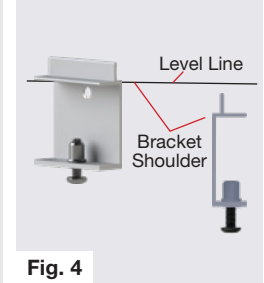

Fig. 4
- Using Hardware appropriate for your wall type (not included), fasten the Micro Adjustment Hanging Brackets at stud locations which provide the greatest support to the panels. **Align bracket "shoulder" with the drawn level lines** (Fig. 4).